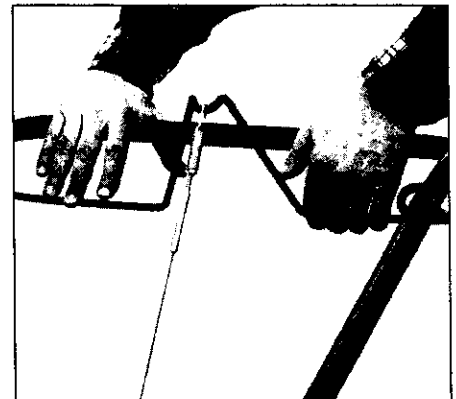

Figure 3-4: Operating the Forward Clutch Bail.
The Forward Clutch Bail (Figure 3-4) is used to engage or disengage (stop) the tiller wheels and tines.
3. Use the other hand to lift up and hold the Forward Clutch Bail. See Figure 3-4. When the bail is in this position, the wheels and tines will turn. NOTE: The wheels will rotate in a forward direction; the tines will rotate counter-clockwise (backward toward the operator).